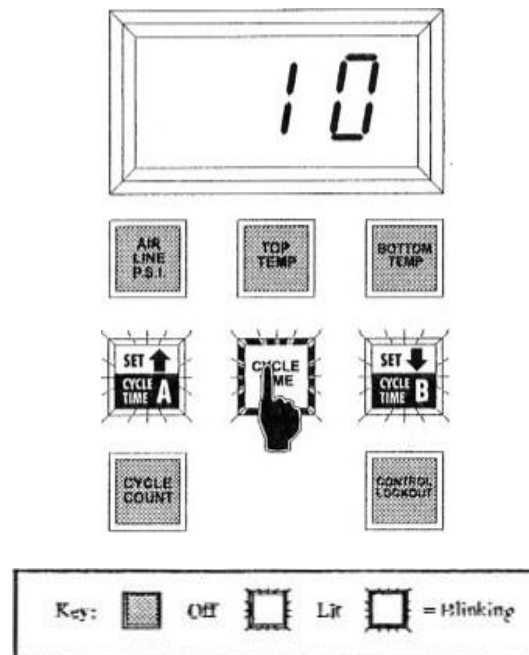

Figure 5-1
- While the control panel is in Monitoring Mode, press and release either Cycle Time A or Cycle Time B buttons to select the cycle time that you want to select. After selecting Cycle Time A or Cycle Time B, press and hold the Cycle Time button. After approximately two seconds, the panel's Up Arrow and Down Arrow buttons will light and the Cycle Time button blinks, as shown in Figure 5-1. This puts the control panel in the Set Mode. Release the Cycle Time button. The control panel will display the current setting for the cycle dwell time.